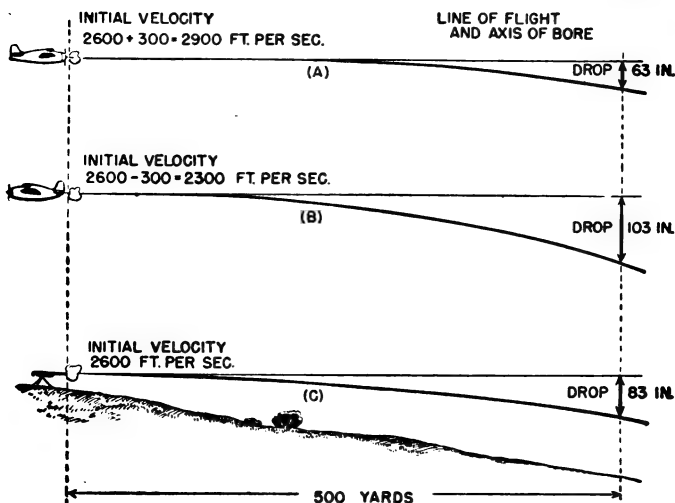

Figure 2.—Comparative drop.
Look at figure 2. Here, in (C), you can see how the TRAJECTORY, or the actual path of the bullet, drops below the axis of bore. The amount of this drop at any one range depends principally upon the speed of the bullet, air resistance, and gravity.
Does this affect the rate of DROP? Stop and think a minute. The bullet fired from the hilltop dropped 83 inches in 500 yards. The bullet fired from the airplane was traveling 300 ft/sec FASTER than the bullet fired from the hilltop because of the forward speed of the airplane. Therefore, its rate of drop will not be as great as that of the first bullet. Since this bullet is traveling faster, it covers the 500 yards in less time, and gravity has less time in which to pull it down. Actually, the drop of the bullet fired from the airplane will be 63 inches in 500 yards, as against 83 inches for the bullet fired from the hilltop. (See (A) and (B) in figure 2.)